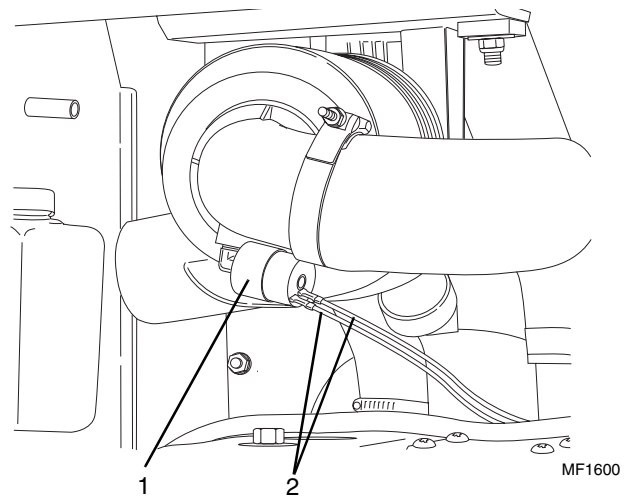

Figure 8-10 Air Restriction Indicator Switch
4. Disconnect the two wires (Fig. 8-10, 2) from the air cleaner restriction switch (1).